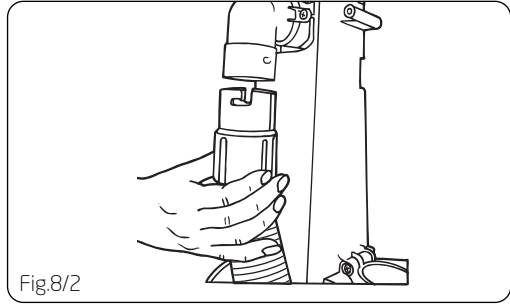

Fig.8/2
3. To aid blockage removal, the hose can be removed by pulling gently down and away from the body of the machine (Fig.8/3).